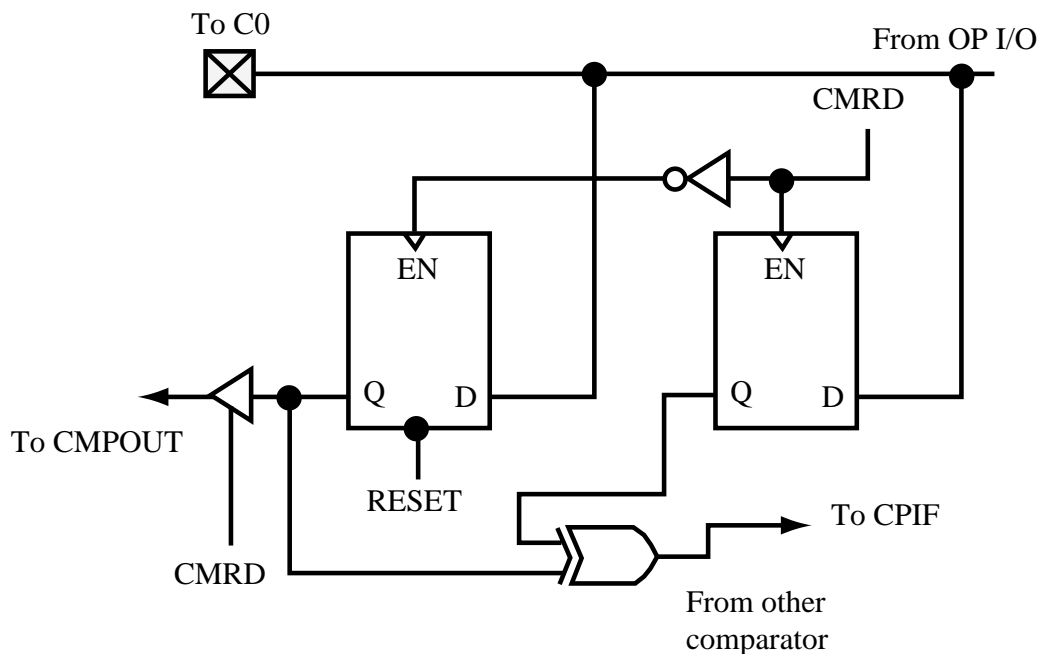

Fig. 16 The output configuration of a comparator
- Fig. 16 shows the comparator output block diagram.